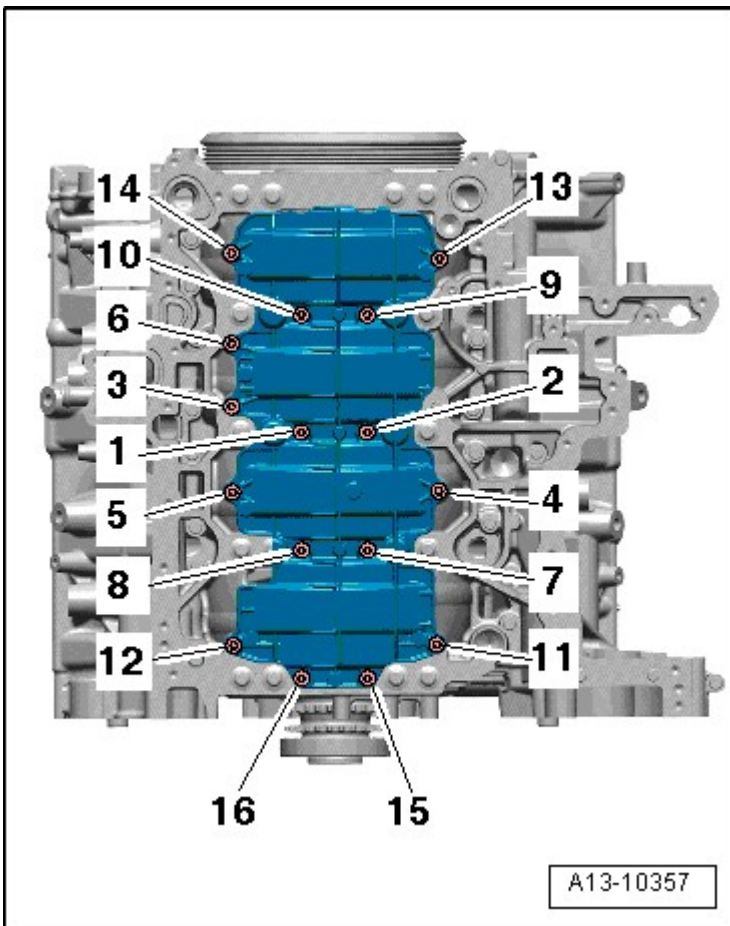

Fig. 2: Baffle Plate Bolts Tightening Sequence
- Tightening specification and sequence, refer to **Fig. 2**